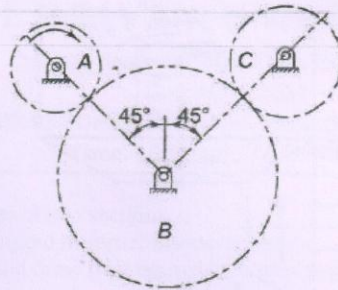

Fig.1
- (b) The pitch circles of a train of spur gears are shown in Fig. 1 [07] 2,3 3,4,5